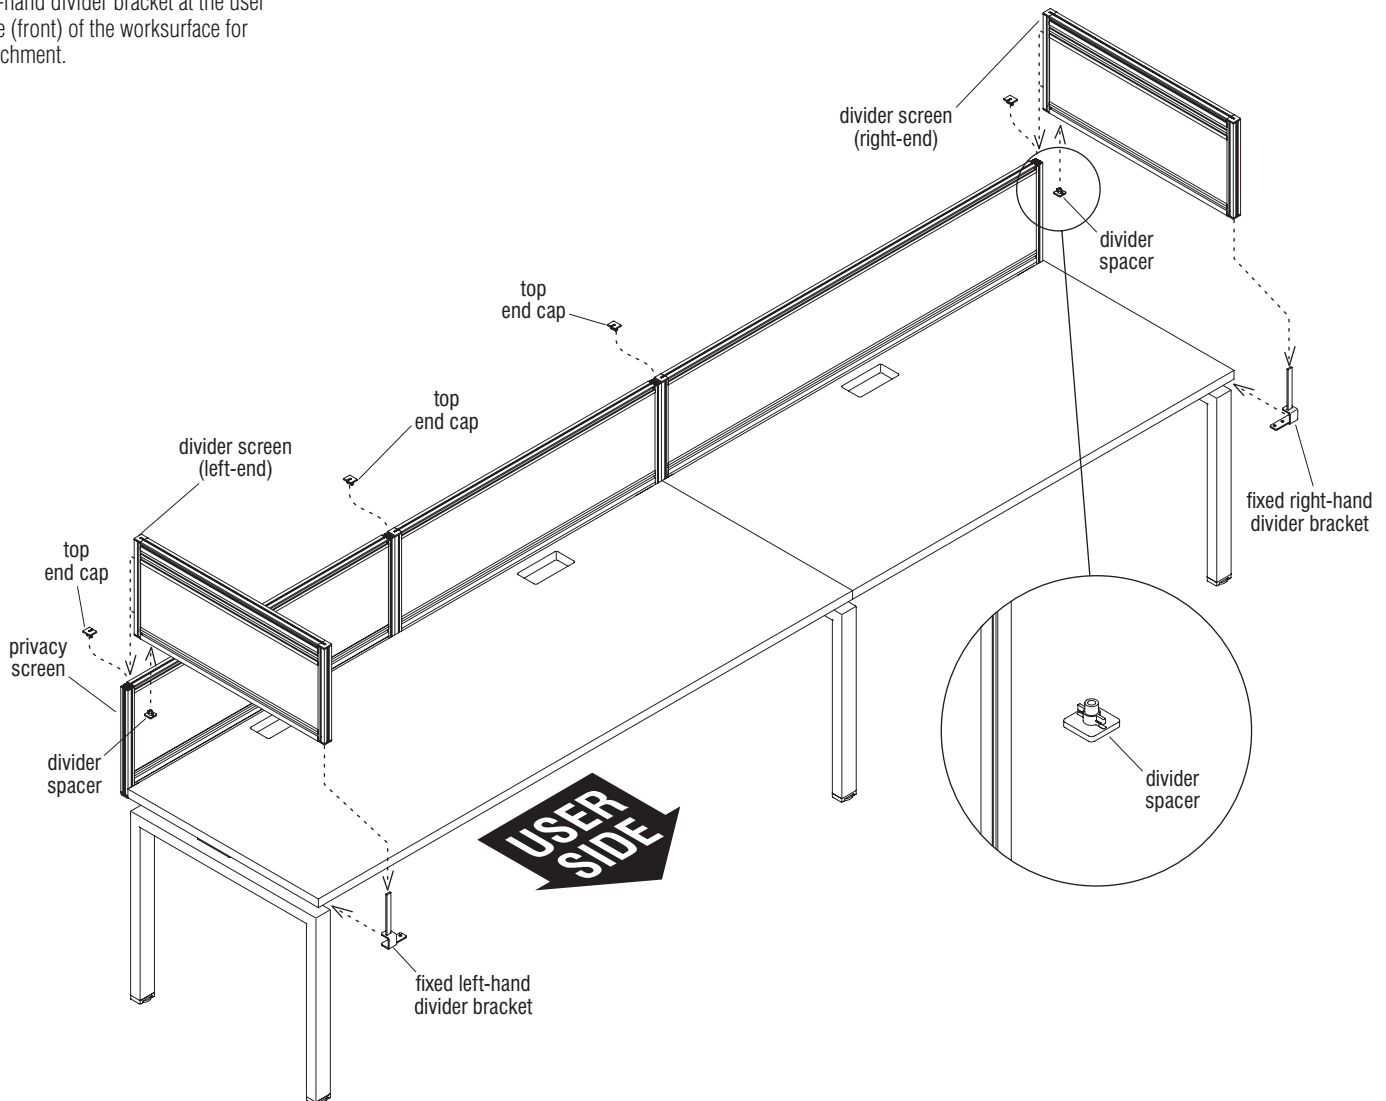

Figure 3 - Single-Sided Fixed Benching - End Divider Screens Installation
1. Prepare **left end divider(s)** for installation by first making sure that the top end cap is carefully removed from the privacy screen where the end divider will install. Pry the cap(s) off using a flat blade screwdriver, taking care to not break off any attachment tabs. Next, locate a "divider spacer", position it into the horizontal T-slot at the underside of the divider screen near the back and twist the spacer 90° to lock it in position (Figure 3).
2. Locate and orient a "fixed left-hand divider bracket" as shown and slide it onto the front edge of the worksurface where the divider screen will install (Figure 3).
3. Position the divider screen at the end such that the attachment screw heads at the back nest into the vertical slot in the privacy screen and slide the divider screen down such that the front also slides into the bayonette of the fixed left-hand divider bracket (Figure 3).
4. Align the end divider straight with the worksurface side and tighten the set screws at the underside of the fixed left-hand divider bracket. Only tighten the set screws so the tops of the set screws are flush with the bracket face. Do not over-tighten (Figure 3).
5. Finally, replace top end cap removed in step one. Repeat process following steps 1 through 4 for right-end divider using a "Fixed right-hand divider bracket" (Figure 3).